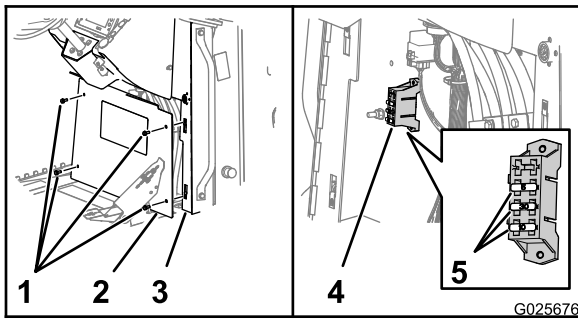

Figure 81
- Remove the 4 hex-flanged bolts (5/16 x 3/4 inch) that secure the cover to the console and remove the cover (Figure 81).
4. Locate the open fuse and replace it with a fuse of the same type and amperage (Figure 81).
6. Align the hole in the cover with the nut clips on the flanges of the console (Figure 81).